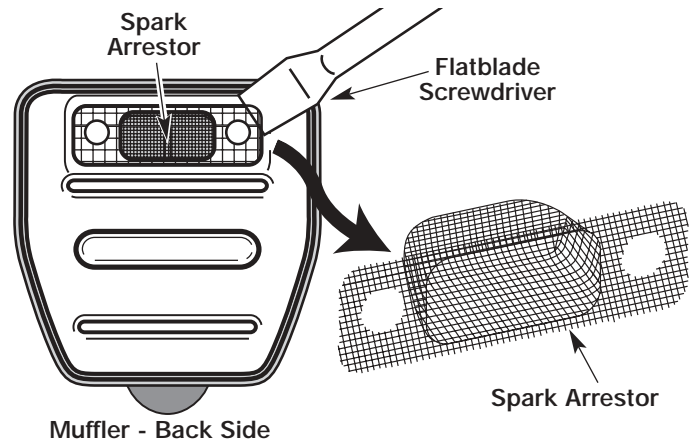

FIGURE 41
4. Using a small flatblade screwdriver, carefully pry up the spark arrestor from the recessed hole, Figure 41. Remove the spark arrestor from the muffler.
5. Clean the spark arrestor with a wire brush. Replace if it is damaged or unable to thoroughly clean, Figure 41.